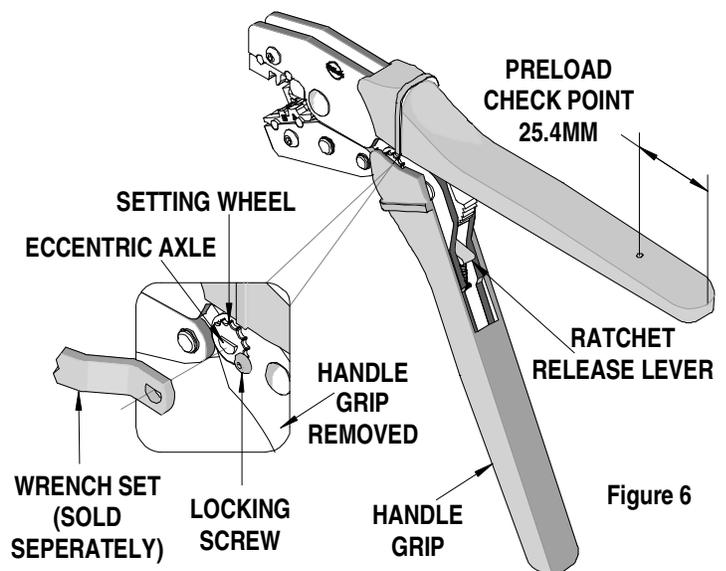

Figure 6
3. Make certain all pins; pivot points and bearing surfaces are protected with a thin coat of high quality machine oil. Do not oil excessively. The 63811-3300 was engineered for durability but like any fine piece of equipment it needs cleaning and lubrication for a maximum service life of trouble free crimping. Light oil such as 30 weights automotive oil used at the oil points shown in Figure 6, every 5,000 crimps or 3 months, will significantly enhance the tool life.
Should this tool ever become stuck or jammed in a partially closed position, **Do Not force the handles open or closed.** The tool will open easily by pressing the ratchet release lever (See Figure 6).
How To Adjust Tool Preload (See Figure 6)